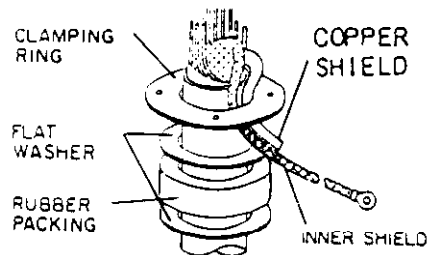

Fig.5-6 Grounding the Copper Shield
12. Tighten the cable gland to the scanner base. Ground the copper shield of the multicore cable with the clamping ring as shown in Fig.5-6.